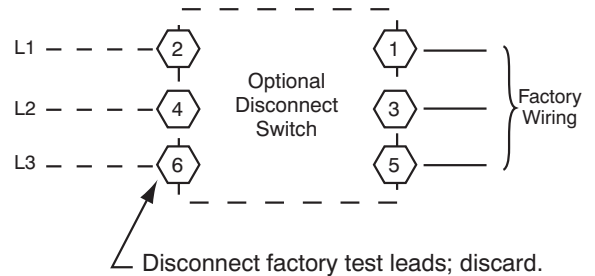
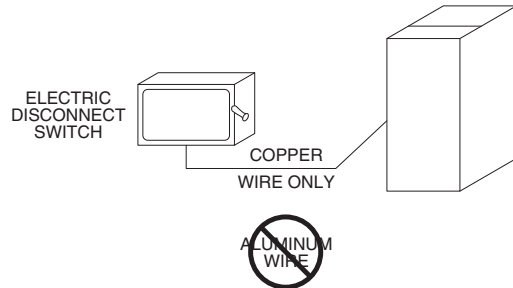
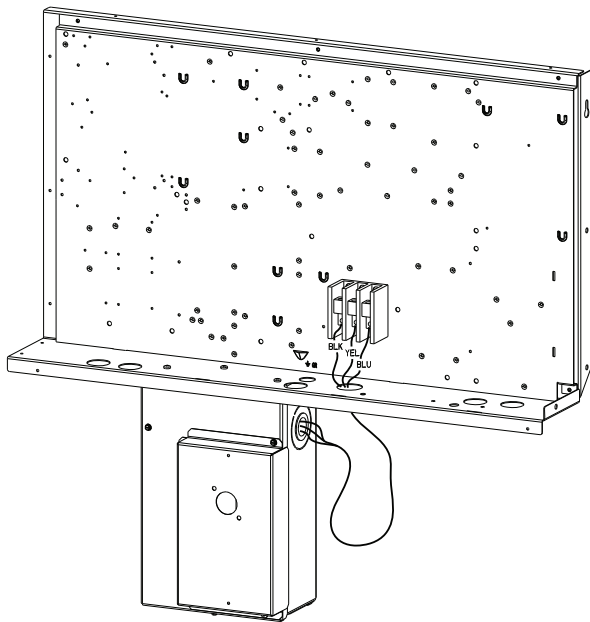

Fig. 63 — Power Wiring Connections (Size 16)
Fig. 64 — Disconnect Switch and Unit (Size 16)
Fig. 65 — Location of Non-Fused Disconnect Enclosure (Size 16)
Field power wires are connected to the unit at line-side pressure lugs at the main terminal block (TB1) or at factory-installed option non-fused disconnect switch. See Fig. 64. Max wire size is #2 AWG (copper only). See Fig. 63.
Size wire based on MCA (Minimum Circuit Amps) on the unit informative plate. See Fig. 63 and the unit label diagram for power wiring connections to the unit power terminal blocks and equipment ground. Maximum wire size is 2/0 AWG per pole.
The factory-installed option disconnect switch is located in a weatherproof enclosure located under the main control box (see Fig. 65). The manual switch handle is accessible through an opening in the access panel. Discard the factory test leads (see Fig. 63 on page 43). The factory disconnect is an 80A disconnect.
1. Remove the Control Box access panel. The NFD enclosure is located below the Control Box (see Fig. 65).